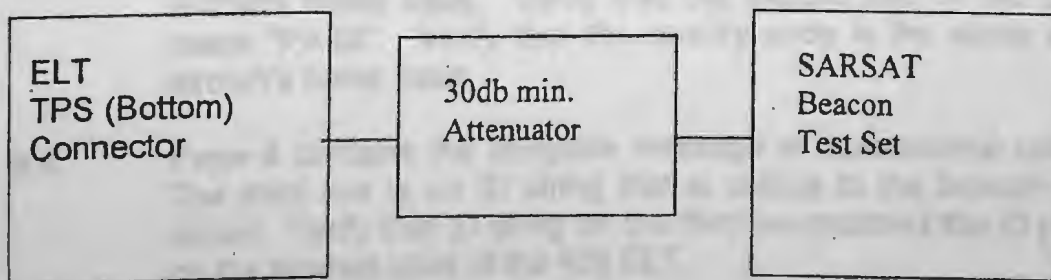

FIGURE 1
- 5.1 Disconnect both coaxes at the ELT transmitter and connect the portable beacon tester directly to the 406.025 transmitter output per figure 1. (The 121.5 MHz coax is to be left disconnected during the 406 test to minimize local alerts)